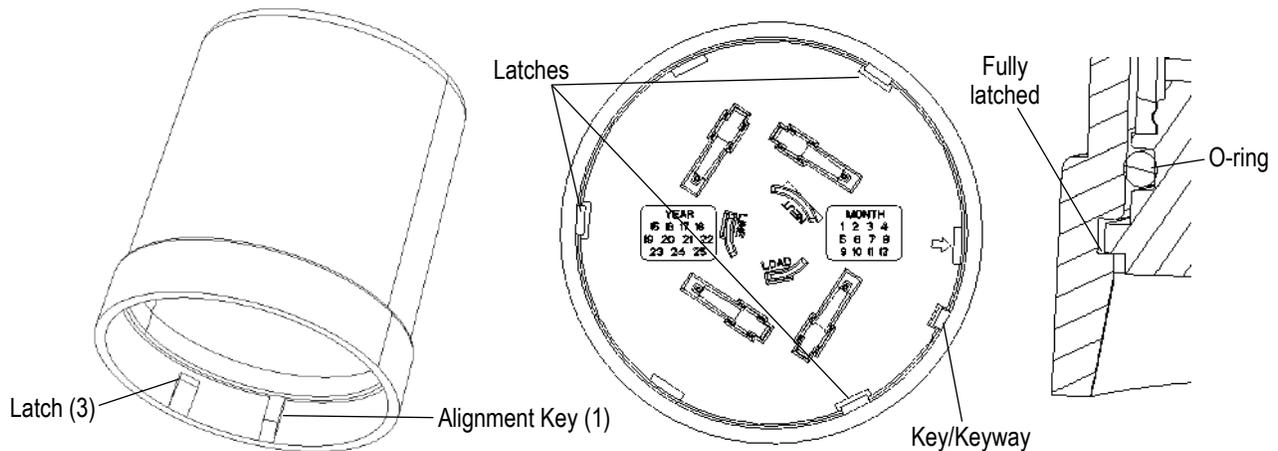

Figure 3a
Changed: Section 3.8 to add detail and figures 3a, 3b, and 3c.
A. Place the cover onto the base, ensuring the cover key and base keyway are aligned. The cover has a raised key which must be properly aligned with a keyway slot on the perimeter of the base. Reference figure 3a.